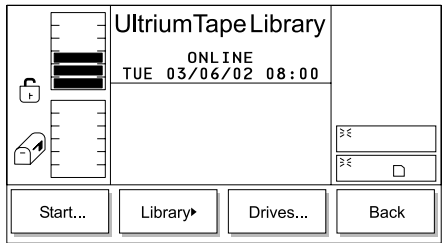

Figure 348. Service Menu
2. Press the button below the **Service** softkey. The Service Menu displays (see Figure 348 on page 228).